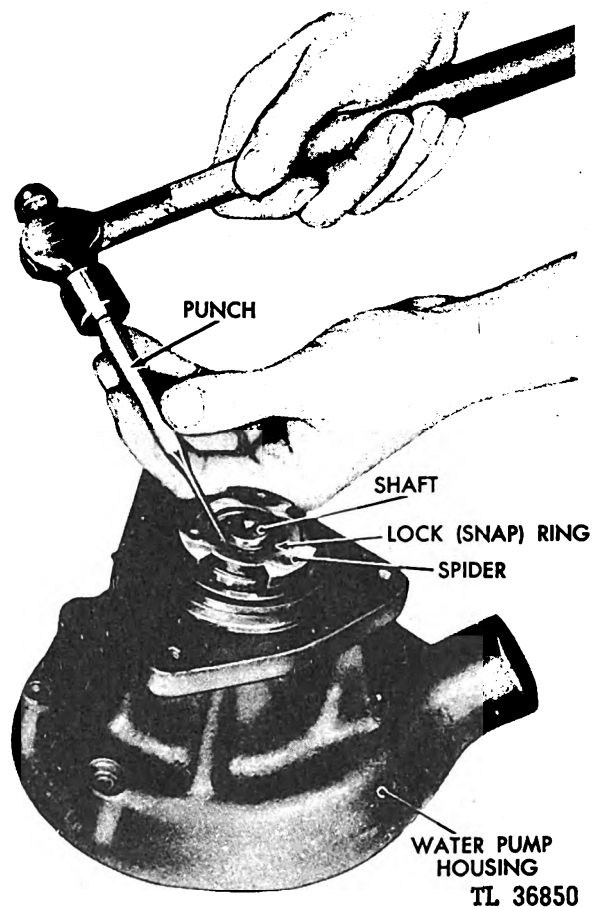

Fig. 198. Removing Clip from Water Pump Shaft
a. *Disassembly.* (1) Remove the clip and the spider from the water pump shaft. (See Figure 198.)
or locking ring in the groove provided for it on the shaft. (See Figure 198.)